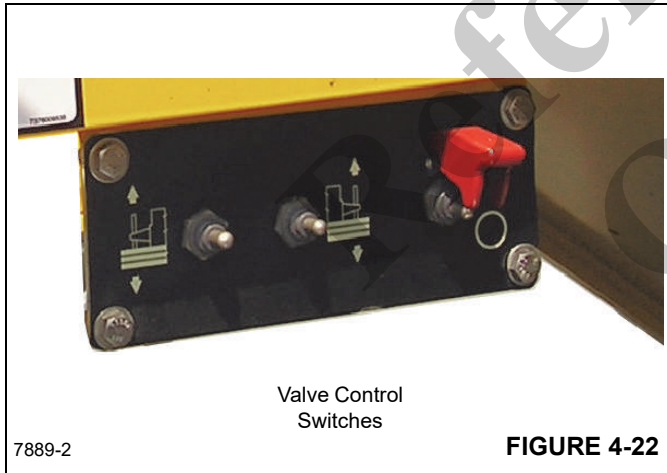

FIGURE 4-22
3. Using the counterweight removal control valve switches (Figure 4-22), raise the counterweight cylinders to relieve weight on the upper attach pins.
5. Using the counterweight removal control valve switches (Figure 4-22) located on either side of the turntable, lower the counterweight cylinders. Pin the cylinders to the counterweight using the attach pins in the cylinders. Insert the retaining pins in the attach pins.